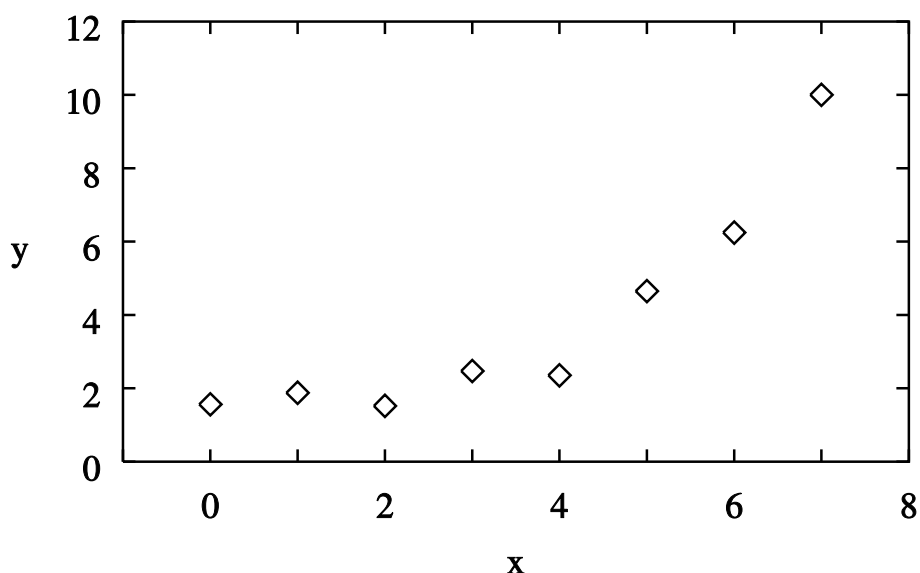
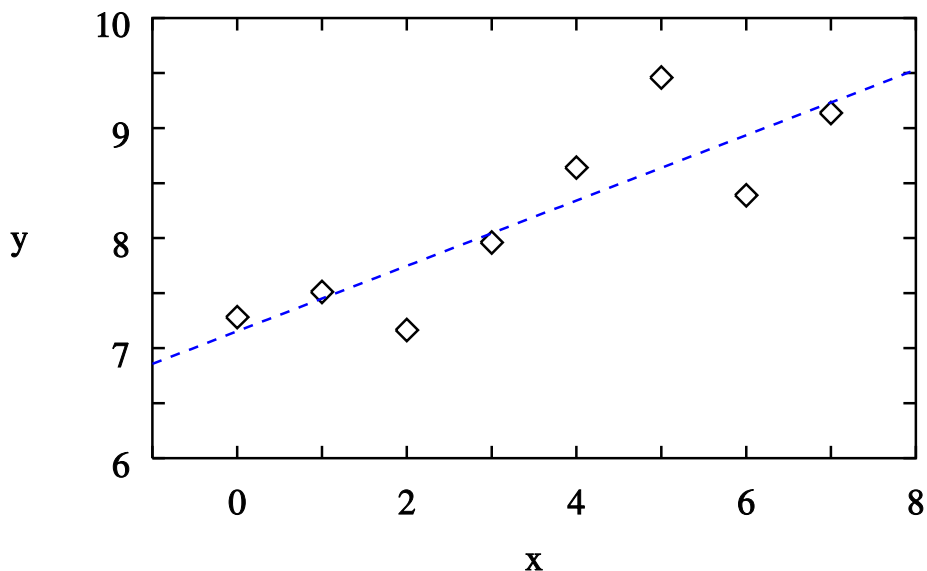

Figure 1: An example of a set of data which does not appear to be compatible with a linear model. Instead, the slope of the graph appears to increase with  $x$ .
Figure 2: The data (diamonds) and the best linear fit (dashed line).
where  $m$  is the slope, and  $b$  is the  $y$  intercept. Fig. 1 shows a plot of a set of data that does not appear to be linear. We could apply a linear fit to this data, but it is unclear what the results would mean.
A sample set of data compatible with a linear model is given in Table 1 and plotted in Fig. 2. Note that none of the data points fall along the straight line shown in the figure. Measurements compatible with a linear model generally do not all fall exactly on a single straight line, because measurements include uncertainties. Although the data do not fall on a single line, the diamonds in Fig. 2 appear to be scattered randomly about a common line.
of the most probable true values. The dashed line shown in Fig. 2 is the result of a least squares fit to the data in Table 1. The fit results are
*Caution!* The correlation coefficient will not help you to identify data that is incompatible with a linear model. In fact, the least squares fit to the data shown in Fig. 1 is  $r^2 = 0.769507534$ , which indicates a stronger correlation than that of the linear data of Table 1 and Fig. 2.